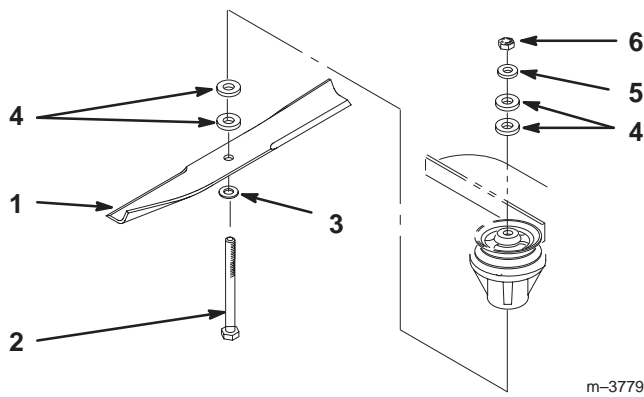

Figure 23
3. Hold the blade bolt and remove the nut (Fig. 23).
- Slide the bolt down through the spindle, and change the spacers as needed (Fig. 23).
- Insert a bolt, add extra spacer(s), and secure them with a thin washer and a nut (Fig. 23).